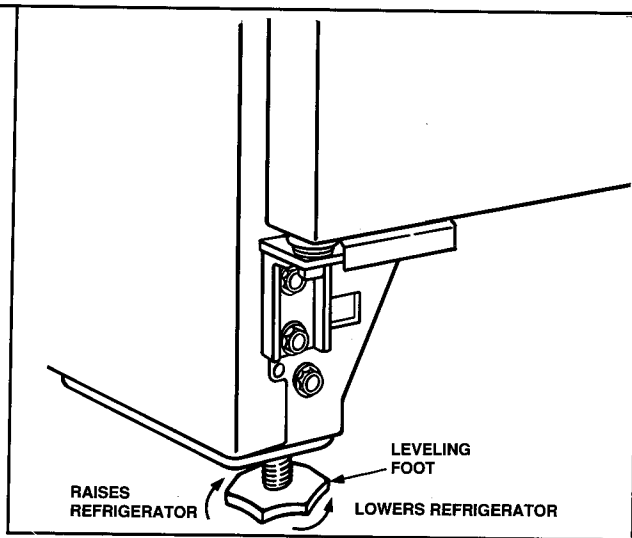

Figure 32
e. To raise cabinet, unscrew (↺) leveling legs. See Figure 32.